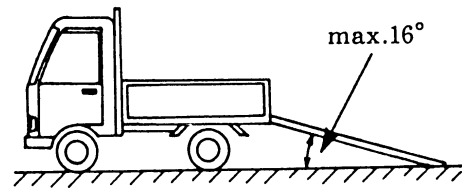

Figure 11
- Use a trailer or a truck which is able to carry the machine. When loading the machine, use bridge which is able to resist to 500 kg, 30 cm wide and equipped with unslipping surface. Check that the slope should not be more than 16°. The maximam is 16° (Figure 11).